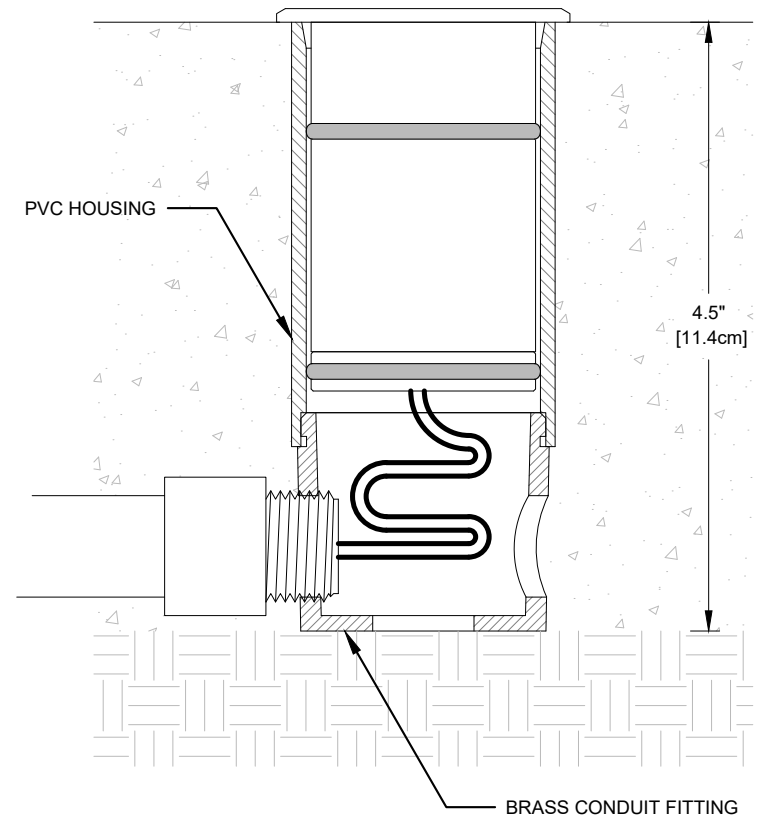

Figure 4
1. Install conduit fitting(s) into sides of brass Conduit Fitting accessory (CF) for wiring. Plug any unused holes.
4. Rest flat bottom of CF on ground at bottom of form. Dirt can be dug out or built up as necessary to achieve desired height. [NOTE: **End of PVC Housing should be flush with finished surface.**] (Figure 4)